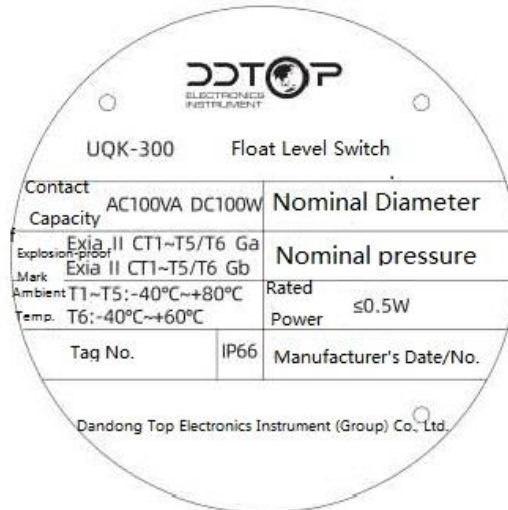

Figure4 Sample Nameplate
5.1.1 Check whether the product nameplate (Figure 4) is consistent with the supply list information.